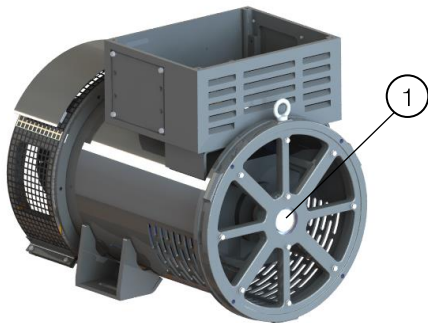

Figure 14.5: Installation of threaded rod
- In the side not coupled, a threaded rod shall be installed (M20) in the shaft center hole, to support and sustain the rotor suspended in the center of its radial clearance, making disassembly of generator back cover possible. Figure 14.5 indicates the installation point of the shaft support rod.
Key of Figure 14.5: